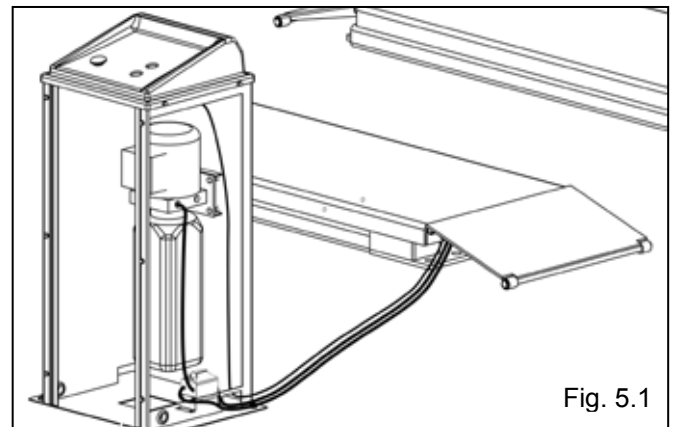

Fig. 5.1
2. Route the Hydraulic Hoses and the Air Line through the holes at the back of the Power Console. (See Fig. 5.1)